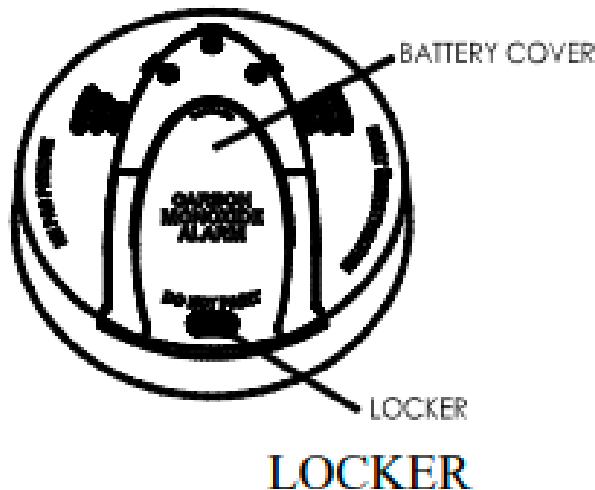

Figure 3.
1. Gently press the transparent locker (see figure 3 as below) and flip open the battery cover to expose the battery compartment.